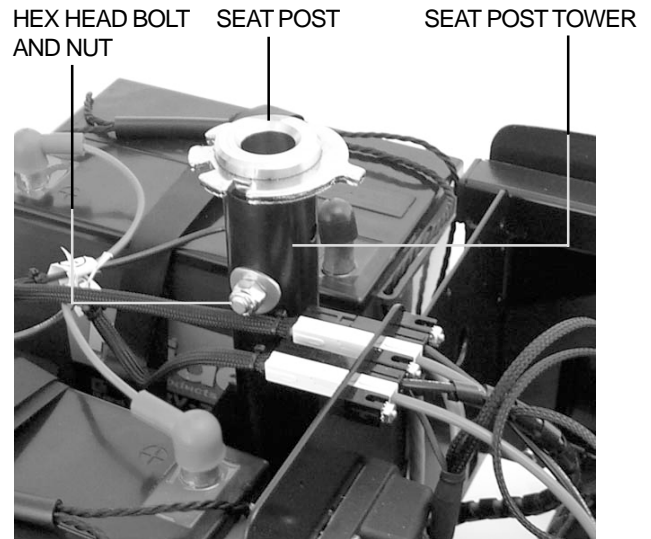

Figure 18. Seat Height Adjustment
3. Use two 17-mm spanners to loosen and remove the hex head bolt and nut. See figure 18.